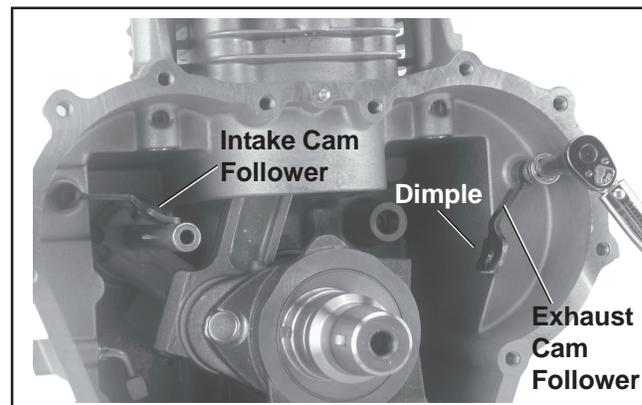

Figure 10-20. Installing Cam Levers.
1. Install the two cam levers as shown in Figure 10-20. The “dimple” for seating the push rod must face “up”. Secure each cam lever using an M6 hex. flange screw. Torque the screws to **7.5 N-m (65 in. lb.)**. Lubricate the dimple and bottom side of the cam lever with light grease or oil.